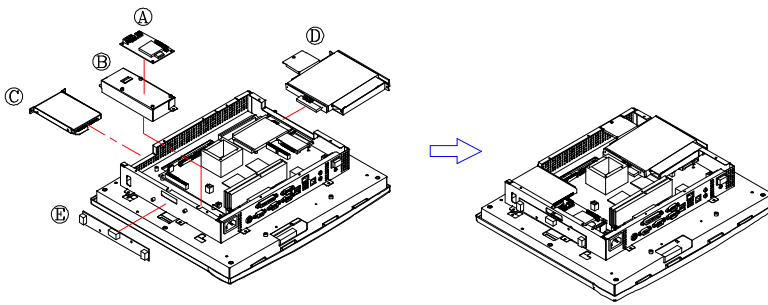
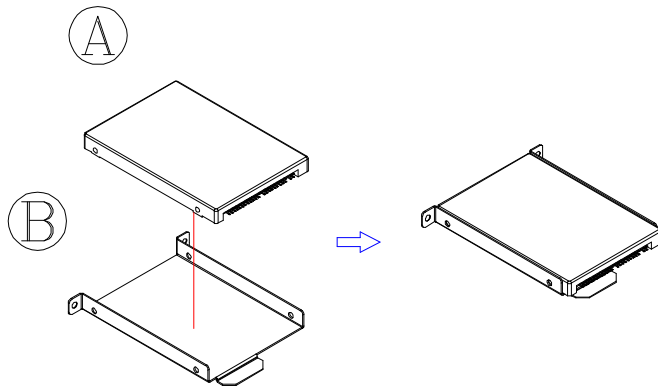
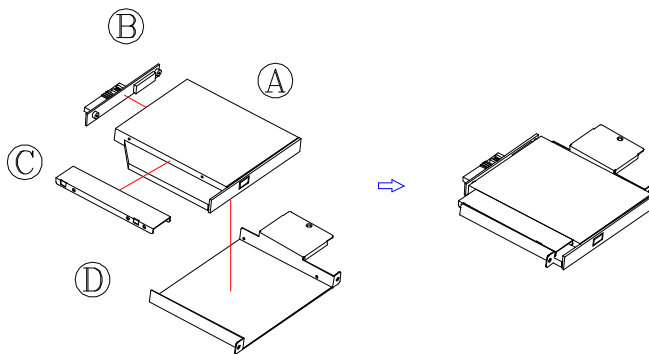

FIGURE 5-6: PERIPHERAL MODULE ASSEMBLY
FIGURE 5-8: HDD ASSEMBLY
FIGURE 5-9: SLIM CD-ROM ASSEMBLY
3. Fix the inverter module to left side of the chassis with two PMS M3*8 screws as shown on Figure 5-6 (E).
The power supply is to be integrated with a power bracket before it is installed to the panel PC system. Figure 5-6 shows the steps to assemble the ATX power module. For the specification of the power supply, please refer to APPENDIX.
3. Integrate the power module to the system chassis and retain them together with two PMS M3*6 screws as shown on Figure 5-6 (B).
1. Fix the touchscreen controller to the top of the power supply bracket with four PMS M3*6 screws as shown on Figure 5-6 (A).
1. Refer to Figure 5-8. Fix the hard disk drive (1) to the HDD bracket (3) with four FMS M 3*5 screw.
2. Connect the one end of the 44-pin IDE ribbon cable (2) to hard disk drive with the other end connected to the **IDE 1** on the motherboard.
3. Retain the HDD module to the chassis with two **FMS M3*4** screws as shown on Figure 5-6 (B).
1. Refer to Figure 5-9. Attach the CD-ROM board (B) to the slim CD-ROM (A) and fix them together with two screws.
2. There is a small metal bracket (C) used to firmly fix the CD-ROM device to the CD-ROM bracket. This small bracket is to prevent the device from moving when installed to the CD-ROM bracket.
4. Insert the CD-ROM module with the small bracket already on to the CD-ROM bracket (D) and fix them together with two screws as shown on Figure 5-6 (D).
5. Insert the CD-ROM module to the chassis and fix them together with three FMS M3*4 screws as shown on Figure 5-6 (D).